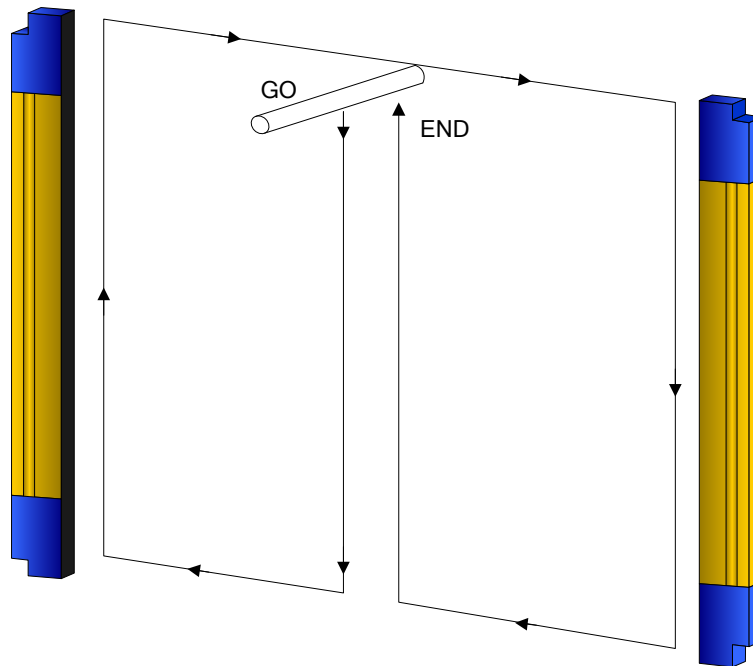

Fig. 16 – Path of the test piece
- ESPE remains in SAFE state intercepting the beams along the protected area using the specific test piece (TP-14 or TP-30), following the Fig. 16 scheme.